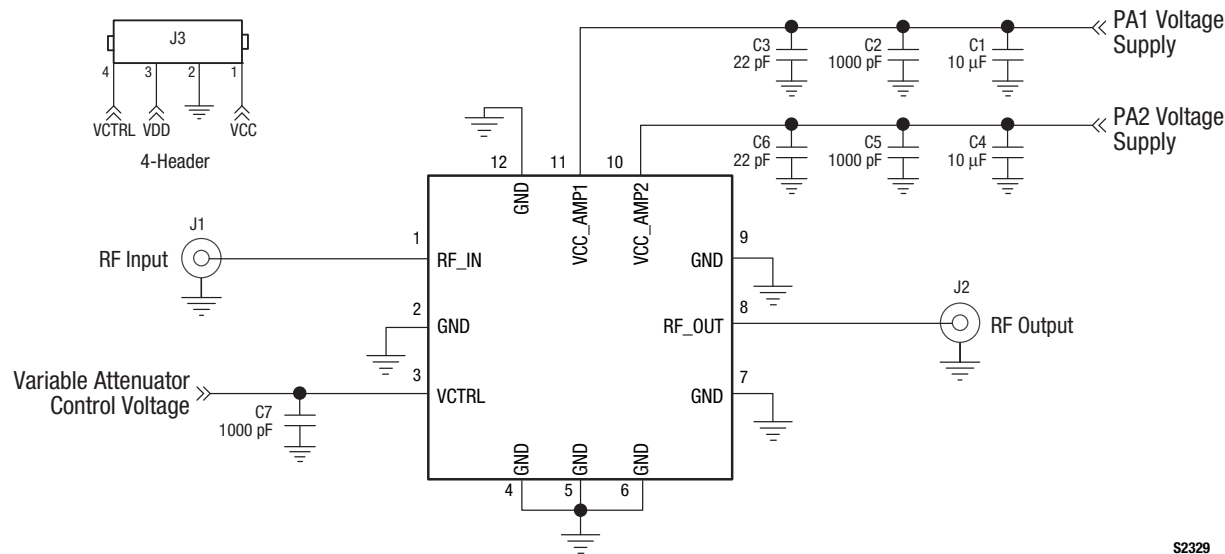

Figure 13. SKY65385-11 Evaluation Board Schematic
The Skyworks SKY65385-11 Evaluation Board is used to test the performance of the SKY65385-11 VGA. An Evaluation Board schematic diagram is provided in Figure 13. An assembly drawing for the Evaluation Board is shown in Figure 14 and the layer detail is provided in Figure 15. The layer detail physical characteristics are noted in Figure 16.
- It is recommended that the layout for the VCC_AMP1 and VCC_AMP2 signals follow what is shown in Figure 14. The VCC_AMP1 and VCC_AMP2 traces can be tied together to share the same power supply. The connecting node should not be placed close to the package pins. The connecting node should be connected closer to components C1 and C4 (see Figure 13) to provide isolation between VCC_AMP1 and VCC_AMP2.